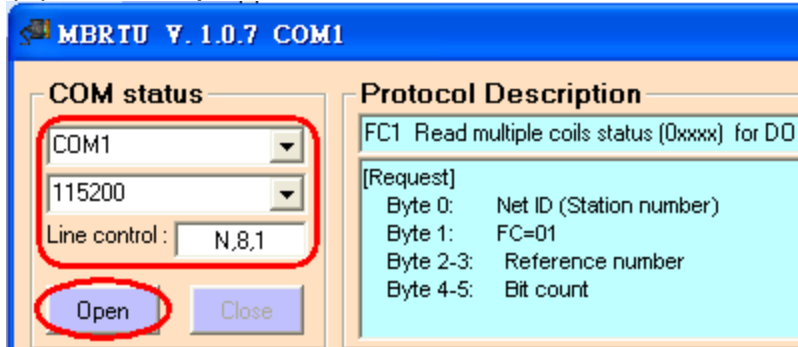

Figure 22: MB/RTU Tool
- Step 5: Run the MB/RTU tool (like Figure 22) on PC.
- (1) Set the PC COM port number
- (2) Set the baud rate to 115200
- (3) Set the Line control to “N,8,1”
- (4) Click “Open” button